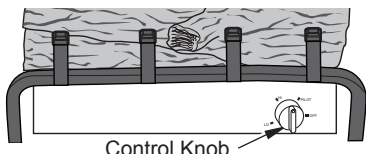

Figure 31 - Control Knob and Ignitor Button Location
- Press in control knob and turn counterclockwise ↶ to the PILOT position (see Figure 31). The ignitor will spark once. Keep control knob pressed in for 5 seconds. If control knob does not pop up when released, contact a qualified service person or gas supplier for repairs.